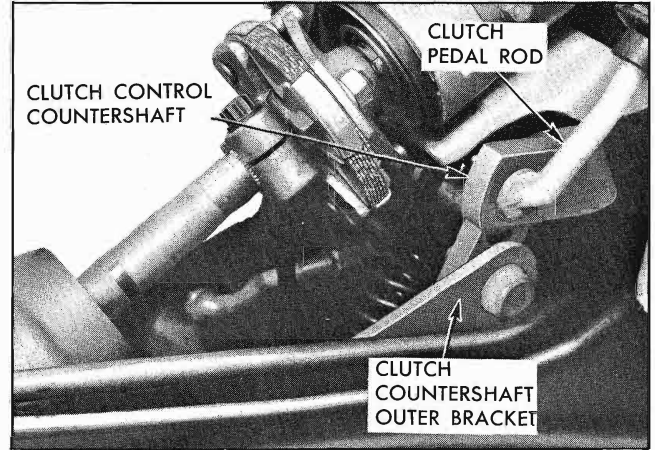

Fig. 6D-5 Location of Clutch Rod and Countershaft
5. Remove cotter pin and washer from clutch pedal push rod at countershaft and disengage rod from countershaft (Fig. 6D-5).